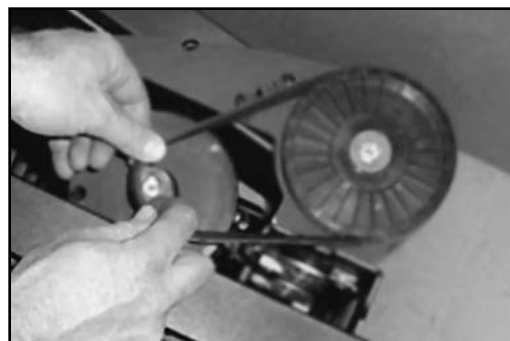

Figure 4-1
- 4-1** Position the drive belt over the roller pulley and the motor pulley (See Figure 4-1).